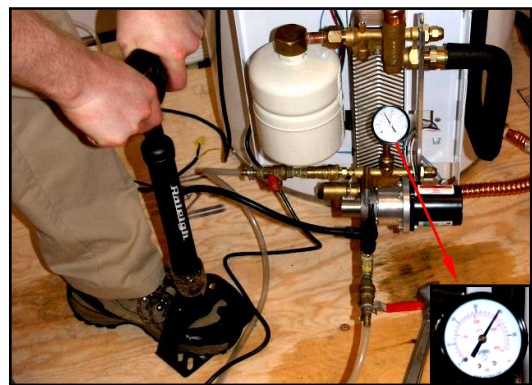

Fig.5.1.2 – Leak test: pressurize appliance to 40 psi and wait 30 minutes.
4. Close ball valves. Connect a compressor or bicycle pump to the supply connection assembly Schrader valve and pressurize heat transfer fluid loop with air to 40 psi (pressure gauge installed on upper manifold) (Fig.5.1.2).